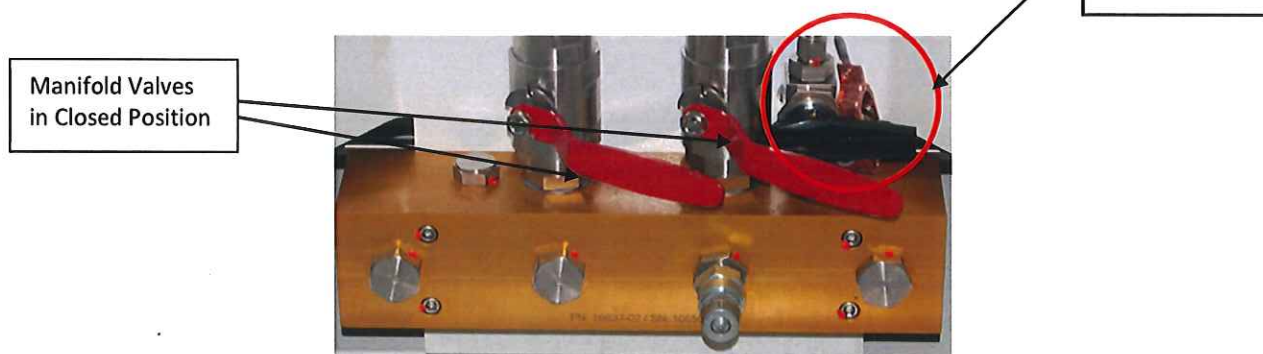

Figure 6: Manifold Valves Shown in “Closed” Position
5. Verify that manifold valves are in their “closed” position as shown in Figure 6.
6. Open the bleed valve shown in Figure 6.